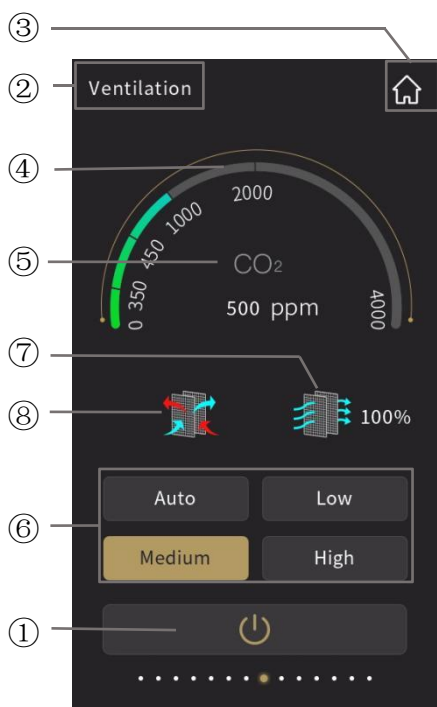
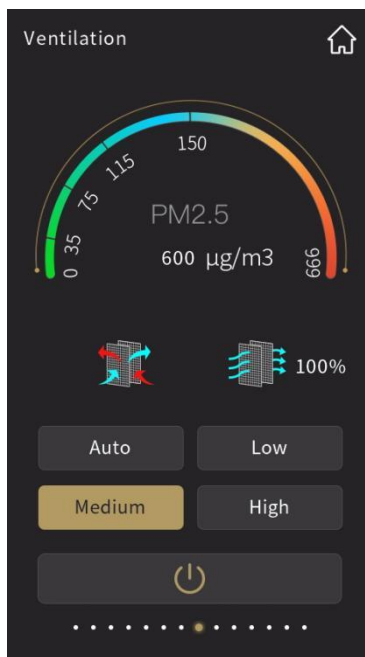
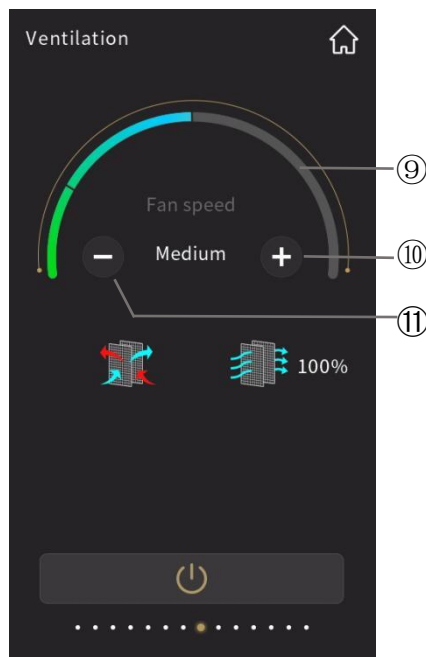

Fig.2.6.1
Fig.2.6.2
Fig.2.6.3
Only when auto fan speed control of ventilation system is enable would this interface display, as shown in Fig.2.6.1 and Fig.2.6.2.
CO2 concentration as shown in Fig.2.6.1, according to the value received from the bus, range 0~4000ppm; if the data exceed 4000ppm, then the interface will display 4000ppm.
PM2.5 concentration as shown in Fig.2.6.2, according to the value received from the bus, range 0~999ug/m3; if the data exceed 999ug/m3, then the interface will display 999ug/m3.
There is up to 4 options for fan speed mode: Auto, Low, Medium and High. When fan speed auto control is enable, auto fan speed adjustment will be displayed on the interface, shown as Fig.2.6.1 and Fig.2.6.2. Whether fan speed auto control is enable or not is configured through parameter configuration.
**⑦ This icon is the filter timer icon;**
Whether the filter timer counter function is enable or not is configured through parameter configuration. When disable, there will be no display of filter timer counter function on the interface as shown in Fig.2.6.1; when enable, icon⑦ will be colorful after ventilation system ON, the remaining
**⑧ This is the heat recovery icon, used to turn on or off heat recovery function;**
Whether heat recovery function of ventilation system is enable or not is configured through parameter configuration. When disable, there will be no display of heat recovery function on the interface as shown in Fig. 2.6.1; when enable, heat recovery function is turned on by default when ventilation system is ON, and the heat recovery function can be turned on or off by touching icon⑧. The icon on indicates that the heat recovery is on; the icon off indicates that the heat recovery is off. In addition, heat recovery function can be turned on or off through the bus. And there would be no responding after enable heat recovery function.
**⑨ This ring bar displays specific fan speed level;**
**⑩ To increase fan speed level by touching this icon;**
**⑪ To decrease fan speed level by touching this icon.**
When fan speed is not configured as auto, as shown in Fig.2.6.3, by touching icon⑩ and icon⑪ to adjust fan speed; for each touch of icon⑩ and icon⑪ to adjust one level, there are 3 modes of fan speed: Low, Medium and High. At this time, the adjustment is manually, not automatically according to the concentration of CO2 or PM2.5.